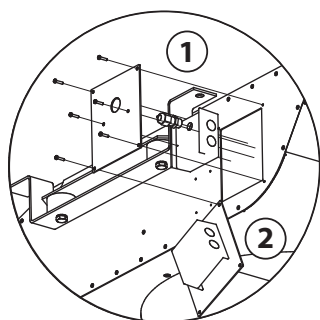

Figure 6. Access to terminal box
- Unscrew the four screws of the plate cover (1, fig. 6).
- Remove, turn, and fixate the cover (2, fig. 6). Keep the terminal box attached to the plate cover.
- 2 Remove the terminal box cover plate and take out the terminal box. Turn and affix the cover with a single screw to the fan casing to facilitate work on the terminal box (fig. 6).
- 7 Connect the motor cable in the terminal box and install it and the cover (fig. 6).